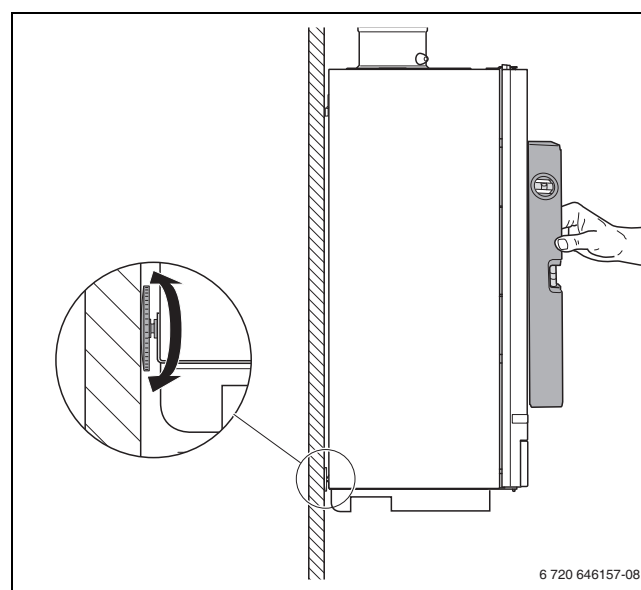

Fig. 9 Aligning the boiler with the set screw
- ▶ Level the boiler with the set screw and a spirit level (→ fig. 9).